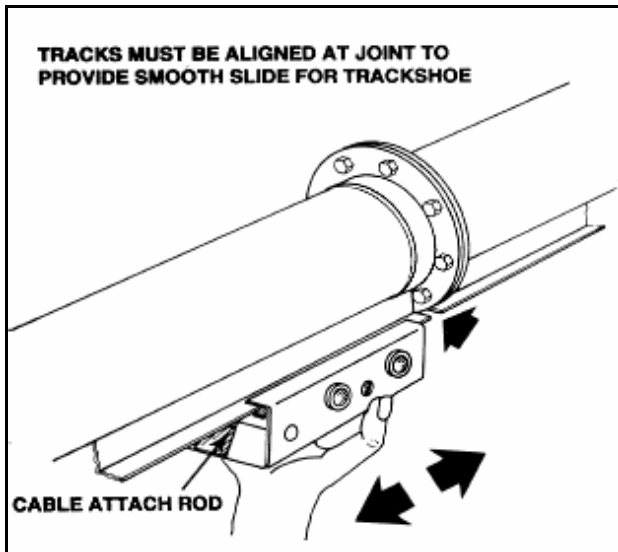
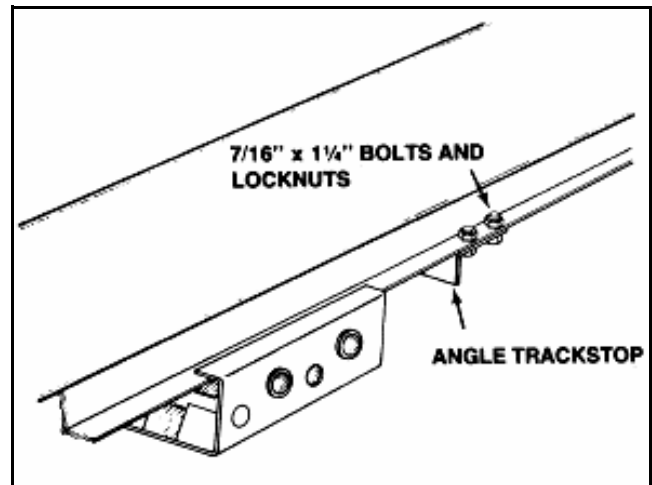
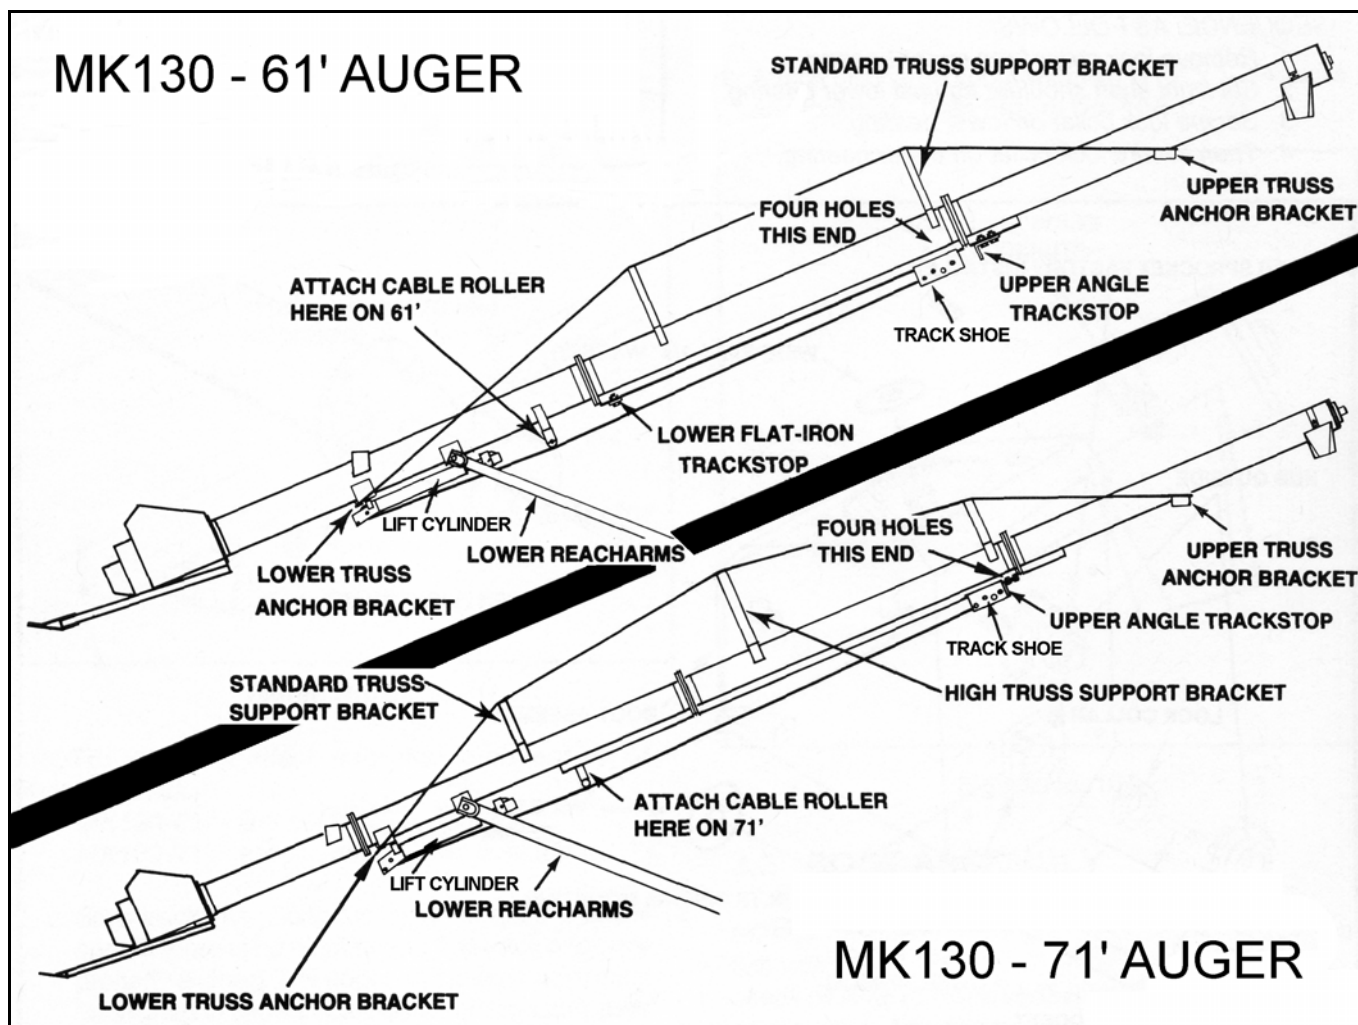
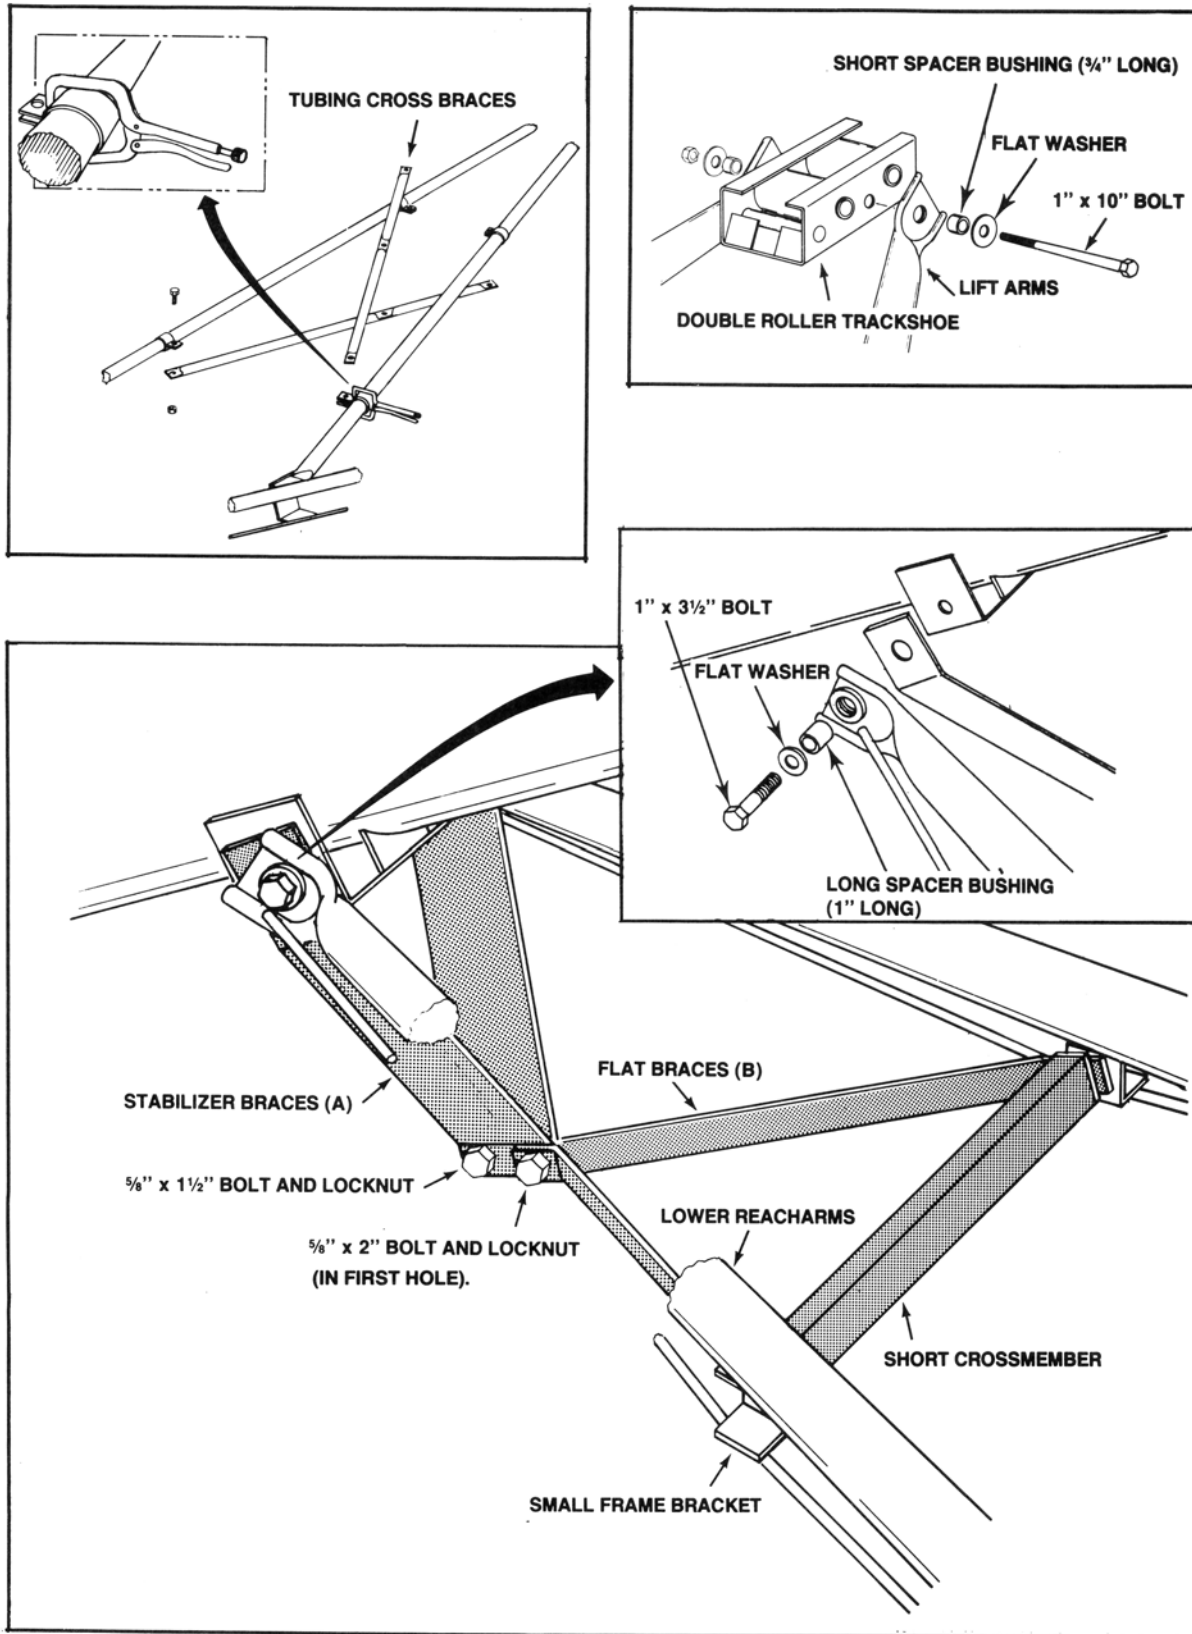

Figure 3.2
Figure 3.3
Figure 3.12 MK130 Plus 61' & 71'
Figure 3.19
**Important:** *Refer to Figure 3.12 and 3.13 for correct positioning. When assembling more than 2 sections, start from spout end and work towards hopper.*
- ➔ **MK130 Plus 61'/71'**: Slide the double roller track shoe onto track with cable attach-rod towards auger intake (Figure 3.2). Attach the angle trackstop as shown in Figure 3.3 using four 7/16" x 1-1/4" bolts and locknuts (see also Figure 3.12).
See Figure 3.12, 3.13, and 3.14.
**Note:** *Two 3/8" cable clamps are supplied to secure truss cables to the eyebolts as described below. Refer to Figure 3.12 on page 26. All other applications require 5/16" cable clamps.*
2. Fasten two truss-support brackets to the correct position on the auger tubes with two each 7/16" x 1-1/4" bolts and locknuts (Figure 3.12, 3.14).
*The 71' and 81' augers require a high truss support center bracket located between the 2 standard support brackets. Fasten with two 7/16" x 1-1/4" bolts and locknuts (Figure 3.12, 3.13).*
9. Position stabilizer braces (A) (Figure 3.19) and attach lower reach arms to bracket on tube with long spacer bushings (1" long), flat washers, and 1" x 3-1/2" bolts and locknuts. **Tighten securely.** Reach arms pivot on the spacer bushings.
**Important:** Refer to Figure 3.12 for correct placement of lower reach arms.
10. Fasten flat braces (B) to first set of holes (furthest from intake) on stabilizer braces (A) with one 5/8" x 2" bolt and locknut. Place one 5/8" x 1-1/2" bolt and locknut in other hole of stabilizer brace.
11. Attach the tubing crossbraces to the upper lift arms (Figure 3.19) by slipping the tube clamps over the flat pressed ends of the lift arms (where they are attached to the frame) and loosely attaching the tubing crossbraces using five 1/2" x 1-1/4" bolts and locknuts.
- ➔ 12. **MK130 Plus 61'/71'**: attach upper lift arms to track shoe. Use a short spacer bushing (3/4" long) and flat washer on both sides; insert the 1" x 10" bolt and **tighten securely** with locknut (Figure 3.19).
1. Position one of the lift cylinders to the right side of welded brackets on the lower end of auger tube (see Figure 3.12 for correct position). Attach with four 7/16" x 1-1/4" bolts and locknuts. Tighten securely.
- Attach other lift cylinder to left side of welded bracket with four 7/16" x 1-1/4" bolts and locknuts. Tighten securely (see Figure 3.12 for correct position).
- ➔ • **MK130 Plus 61'**: attach the cable-roller to bracket located between lower end of track and lift cylinder (Figure 3.12).